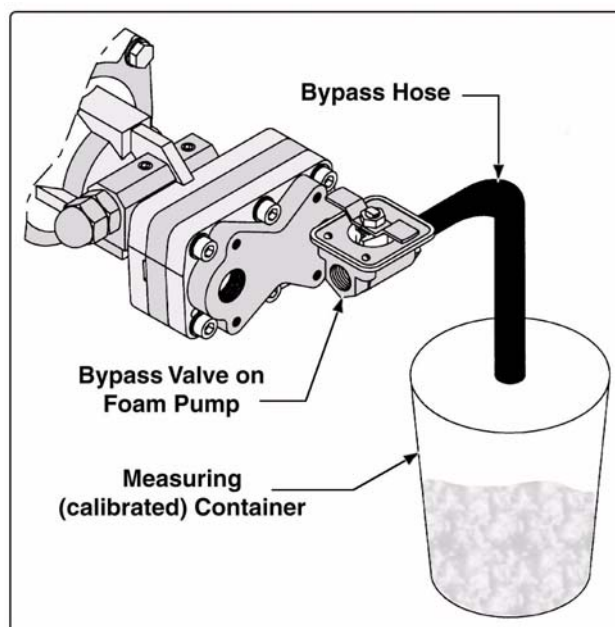

Figure 4-10: Foam Concentrate Collection
4. Place a graduated measure container at the outlet of the bypass hose, capable of containing the expected volume of foam concentrate, 5 gallons (19 liters) minimum. (See Figure 4-10: “Foam Concentrate Collection” on page 119.)
6. STOP the foam pump and accurately measure the amount of foam concentrate collected. (See Figure 4-10: “Foam Concentrate Collection.”)